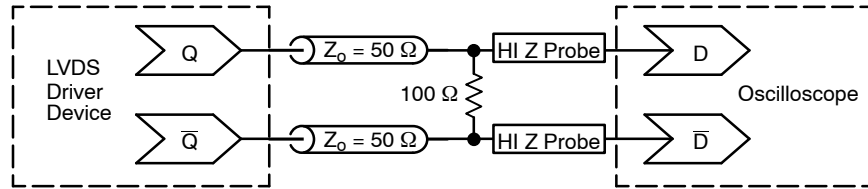

Figure 14. Typical LVDS Termination for Output Driver and Device Evaluation
4. LVDS outputs require  $100\ \Omega$  receiver termination resistor between differential pair. See Figure 14.